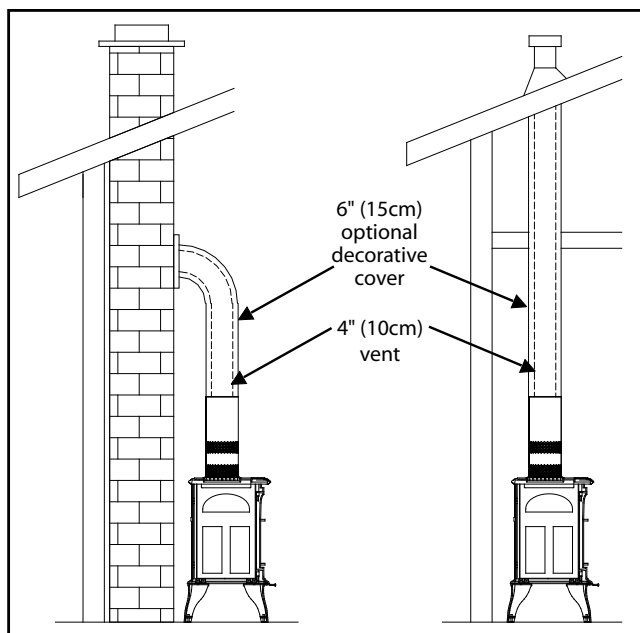

Figure 46: Unit top venting styles.
This unit may be vented to an existing masonry chimney, or where no masonry chimney is available, an approved "B-vent" chimney, or any other approved constructed chimney/vent system (see Figure 46 & 47).
3. Open the gas valve cover. Carefully cut the decal portion on the control panel and install the fan control switch in this location. See Figure 46 for wiring of optional blower.